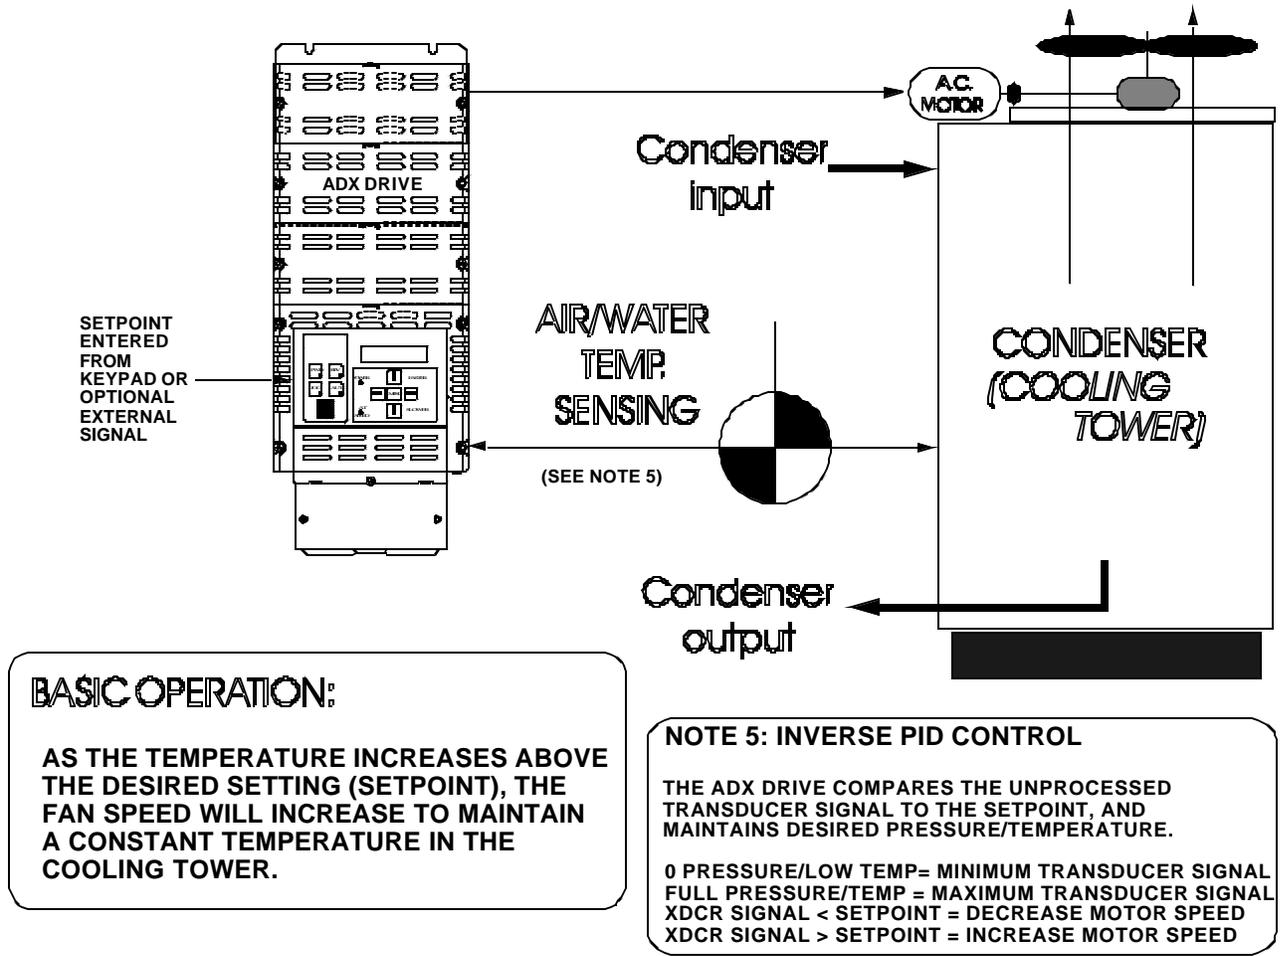

FIGURE 7-9. TYPICAL EXAMPLE OF A COOLING APPLICATION USING INVERSE PID CONTROL (SETUP #9 OR SETUP #11)
2. Motor operation is inverted (i.e., an increase in the process variable above the setpoint causes an increase in motor speed). For a typical example of temperature control of a cooling tower, see Figure 7-9, page 7-13. If the temperature increases above the setpoint, motor speed will increase to reduce temperature.
2. Motor operation is inverted (i.e., an increase in the process variable above the setpoint causes an increase in motor speed). For a typical example of temperature control of a cooling tower, see Figure 7-9, page 7-13. If the process variable (temperature) increases above the setpoint, motor speed increases to reduce temperature.